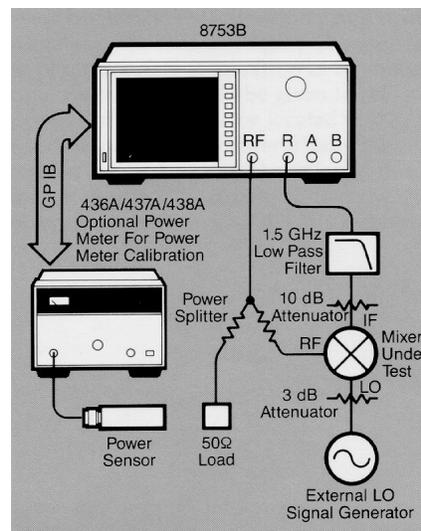

Figure 7. Block diagram for a swept IF/fix LO conversion loss measurement
This step measures the frequency response of the components in the IF signal path (attenuator, filter, and cable) and stores it into memory. This memory trace will be used to remove the frequency response of these components from the conversion loss measurement to be made with the setup in Figure 7.
7. Connect the hardware as shown in Figure 7, terminating the open port of the power splitter with a 50-ohm load.
8. Set the external local oscillator (LO) source to the desired fixed frequency and power level.
To enhance measurement accuracy, replace the 50-ohm load at the power splitter with the power meter and power meter sensor, as shown in Figure 7. Perform a one sweep power meter calibration. This will level the power splitter's output power to a user specified value over the frequency range of the measurement.